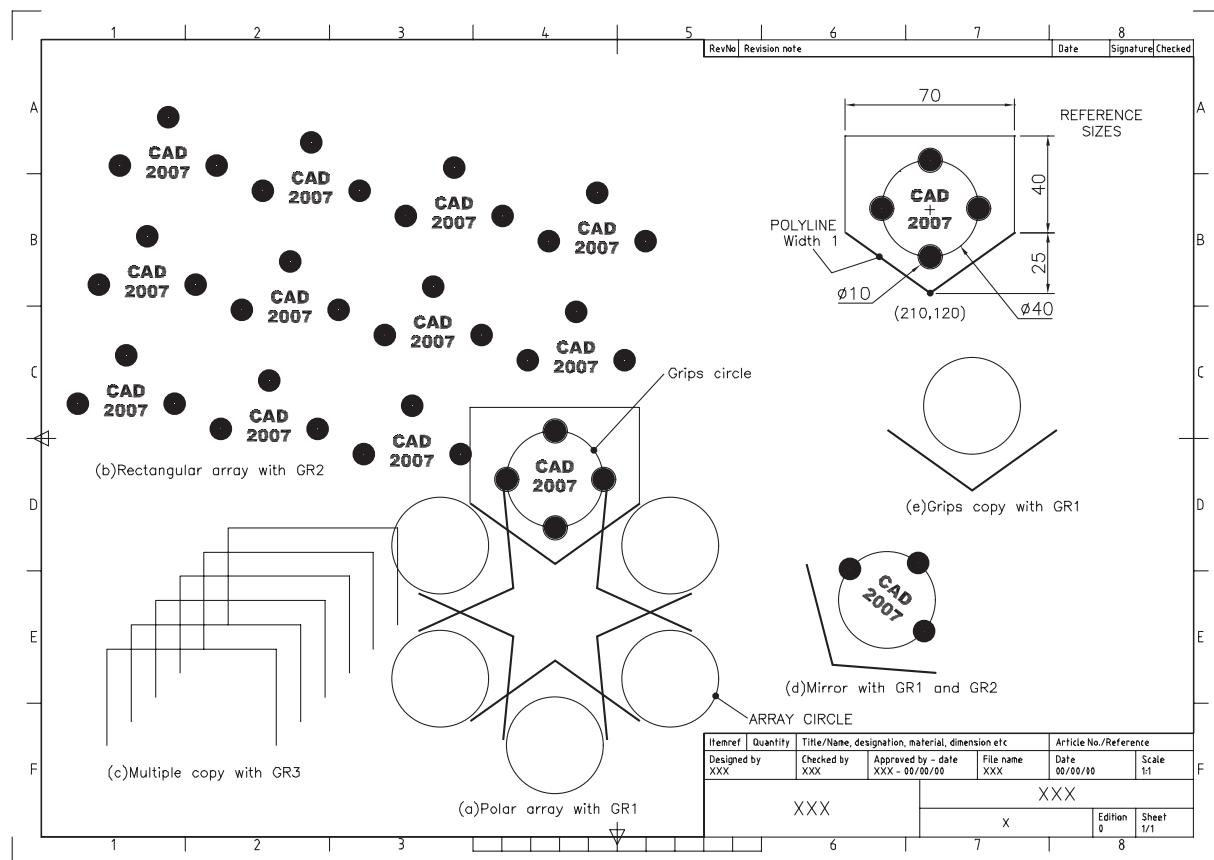

Figure 27.5 Group exercise.
- 2 Open your standard sheet, layer OUT current, refer to Figure 27.5 and:
7 The named group (GR1) will be displayed as Figure 27.5(a).
d) preview then Accept – Figure 27.5(b).
- e) the multiple copy effect is displayed in Figure 27.5(c).
- i) the mirror effect of selecting two groups is displayed in Figure 27.5(d).
prompt Specify move point and enter **@175<10 <R>** – Figure 27.5(e)